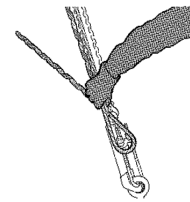

Fig. 2
- The line is taped and cut to the height of the relevant tag on the detensioning coil, which should then be placed as when it is mounted in the bracing screw. If slack is required for grounding, the line should not be cut. Figure 2.